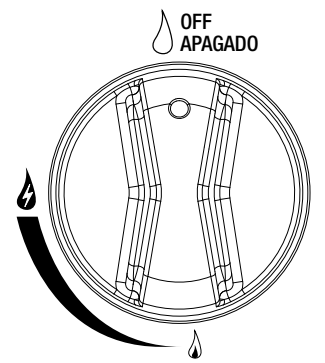

Figure 2
- Make sure control knobs are in the "OFF" position (Figure 2).
- All control knobs must be in the "OFF" position (Figure 2).